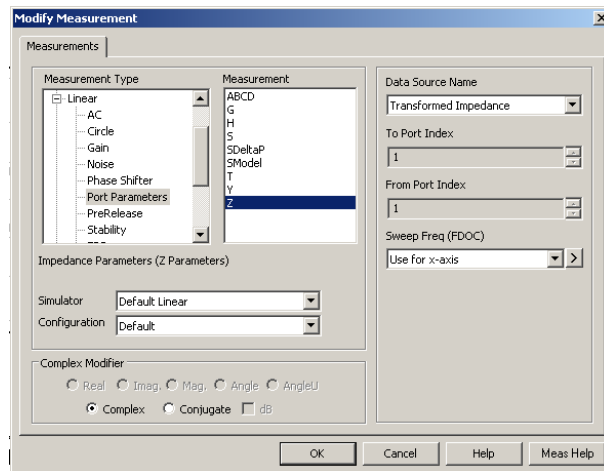

Figure 7.8: Chart 5 : Add Measurement Dialogue Box for 'Transformed' Impedance
- Change your measurement dialogue box to match figure 7.8.